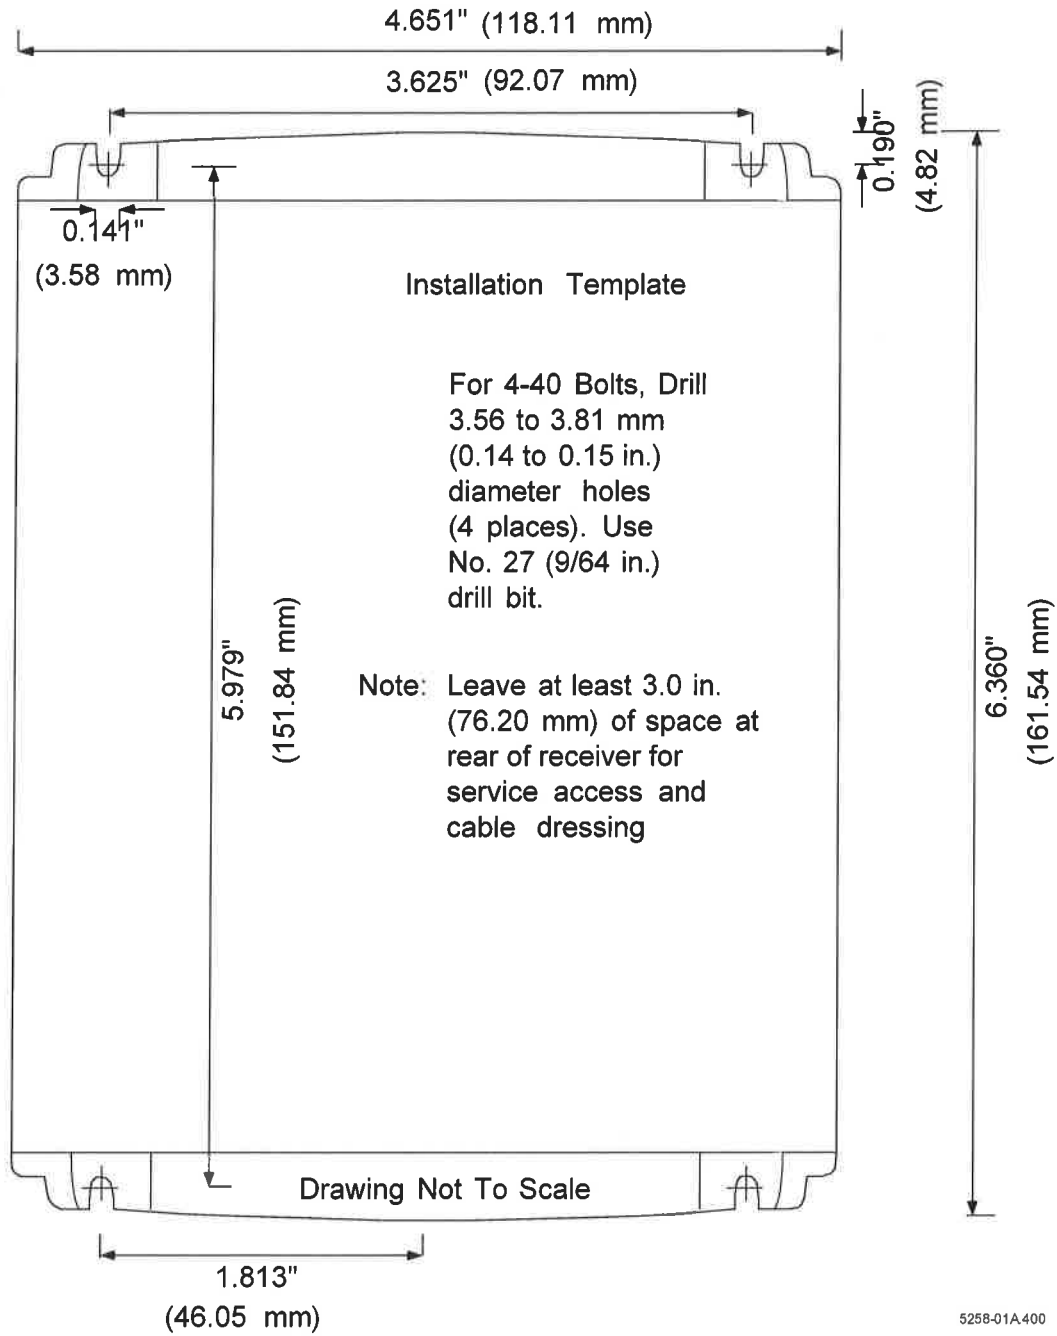

Figure 6. MX 9400 Installation Template
2. Install the unit using the template provided. Refer to Figures 6, 7 and Table 2.